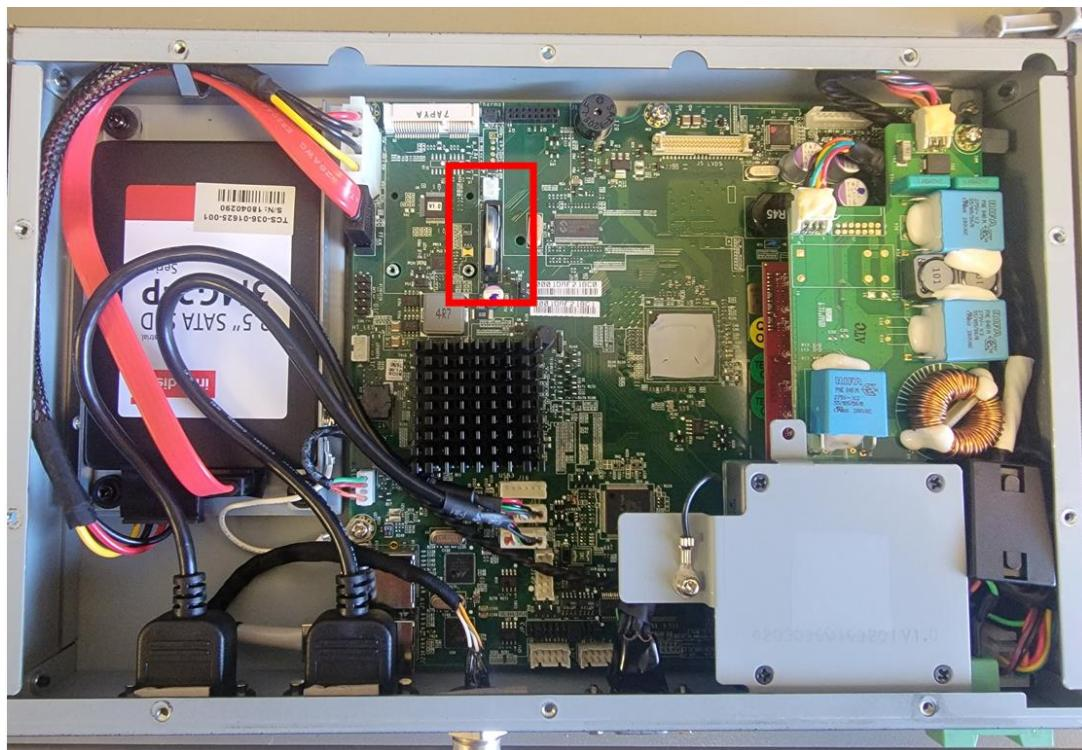

Figure 6-4: PIDS Controller RTC Battery Location
- d. Remove the battery. See Figure 6-4.